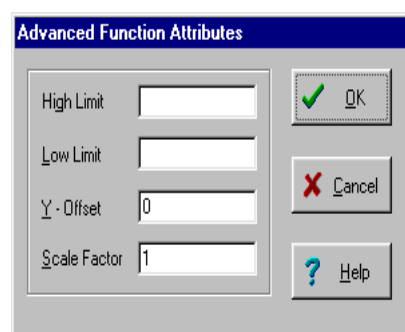

Figure 11.4 Advanced Function Attributes dialogue box. The default settings shown above mean that $g(x) \equiv f(x)$.
The ‘**Advanced Function Attributes**’ dialogue box (figure 11.4) is opened from the ‘**Function**’ window and this is done by selecting the button in the lower right of the window labelled ‘**Advanced**’.
16. Return to the '**Function**' window and select the '**Advanced**' button to open the '**Advanced Function Attributes**' dialogue box (see fig. 11.4);